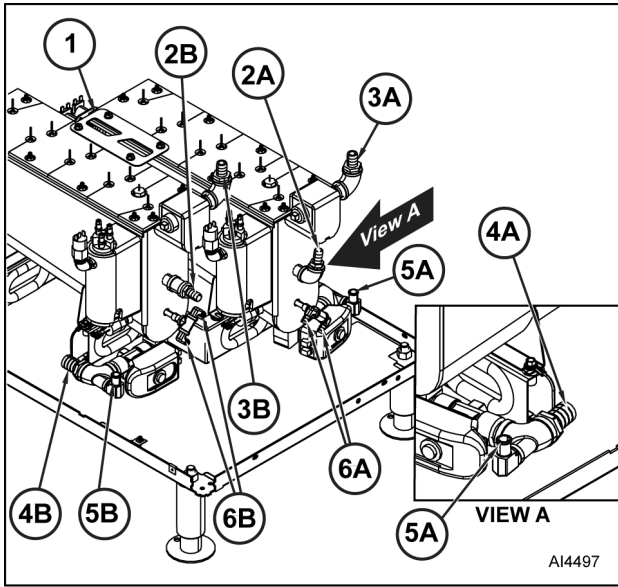

Fig. 27
4. Remove four nuts, washers, and bracket (1, Fig. 27) from both steam generators.